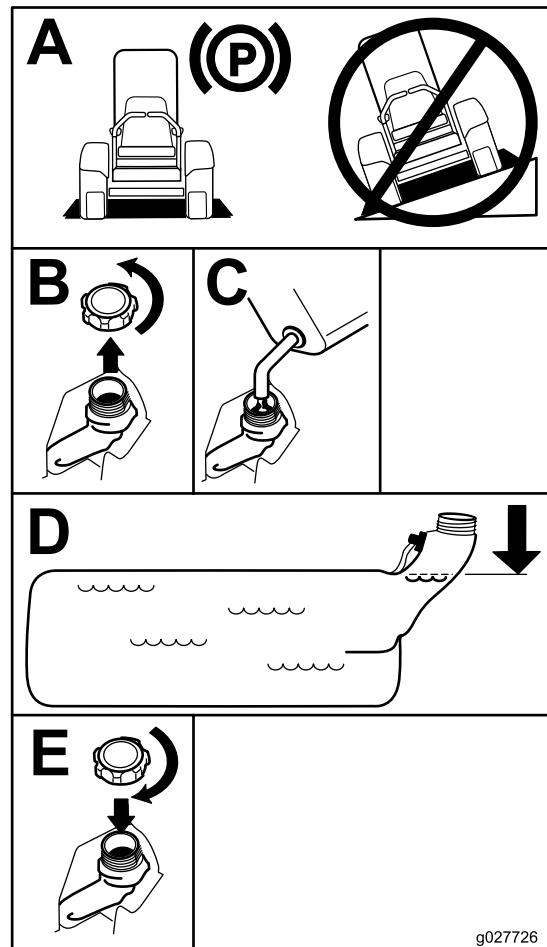

Figure 7
3. Clean around the fuel-tank cap and remove it. Add regular unleaded gasoline to the fuel tank until the level is 6 to 13 mm (1/4 to 1/2 inch) below the bottom of the filler neck. This space in the tank allows the gasoline to expand. Do not fill the fuel tank completely full; refer to \(Figure 7\).